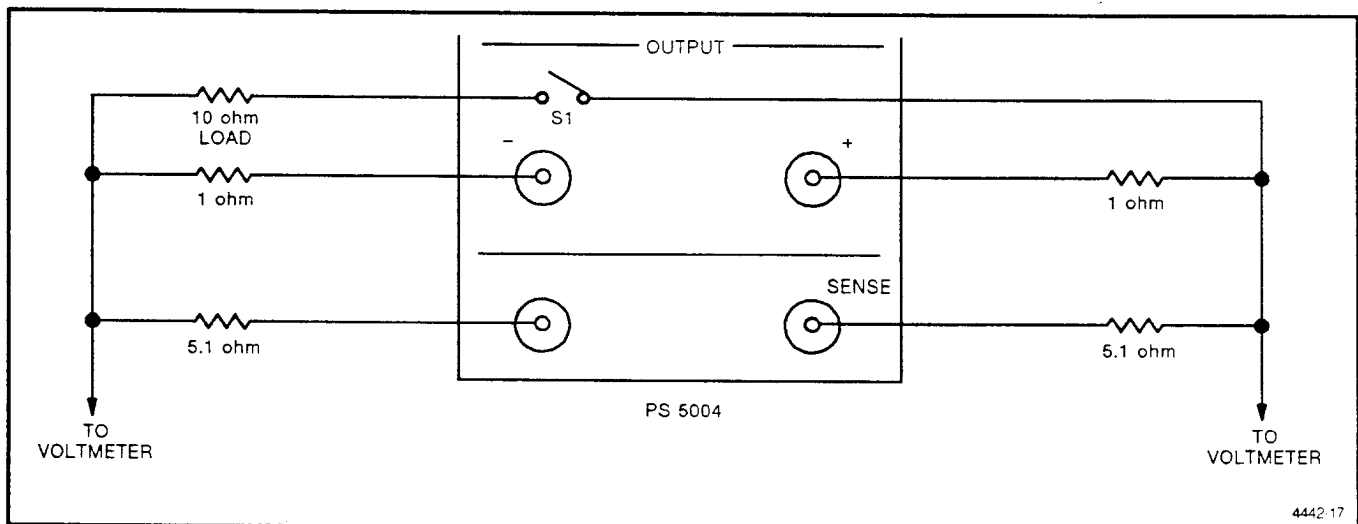

Fig. 5-1. Calibration fixture (passive).
d. Set up the test components as shown in Fig. 5-1.